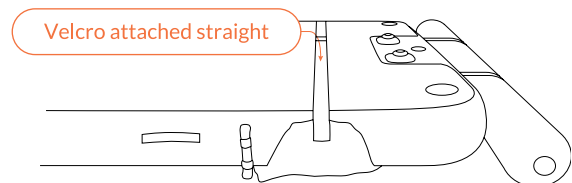

Fig 46 – Attach Velcro strip to top of Platform
5. Attach the lower Velcro securely onto the Velcro strip on the top of the Platform (Fig 46).
6. The Ballast Bag will now be empty and pressed against the side of the Platform (Fig 46).
8. Attach the upper Velcro at the end of the strap securely on to the Velcro strips on top of the Platform (Fig 46). Tuck the end under the other strap where necessary.